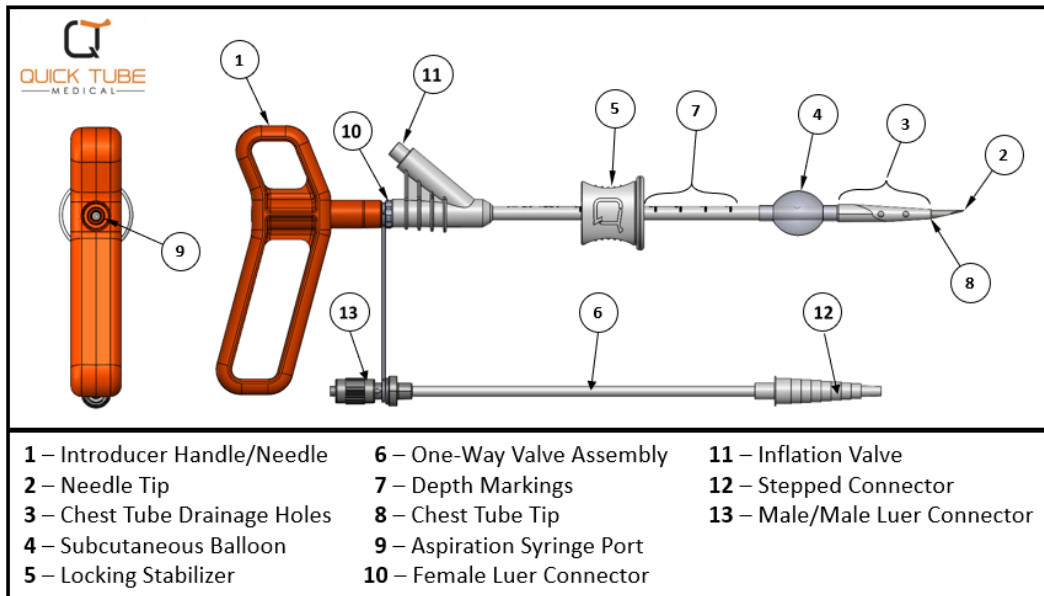

Figure 1: QT Chest Tube Kit
The QT Chest Tube Kit (Figure 1) is a sterile, single use chest tube and delivery system. The Introducer Handle (1) contains a sharp, beveled needle tip (2) that allows percutaneous introduction of the chest tube to the pleural cavity without the need of a scalpel incision. After placement of the chest tube, the Introducer Handle/Needle is withdrawn and a subcutaneous balloon (4) is inflated. A Locking stabilizer (5) slides forward to secure the chest tube in place without the need for sutures. A one-way valve assembly (6) is then placed in line with, and is secured to, the chest tube. A commercially available suction device may be attached, if desired.